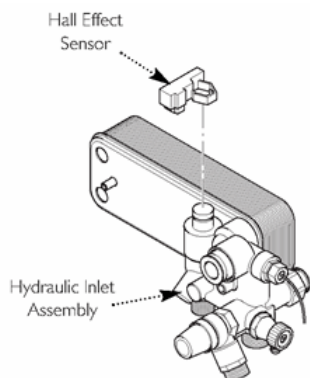

Fig. 92
14.16 Hall Effect Sensor (Fig. 92)